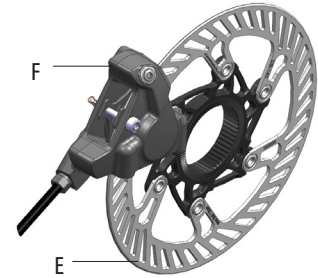

Fig.2
- disco (E - Fig.2)
- pinza (F - Fig.2)